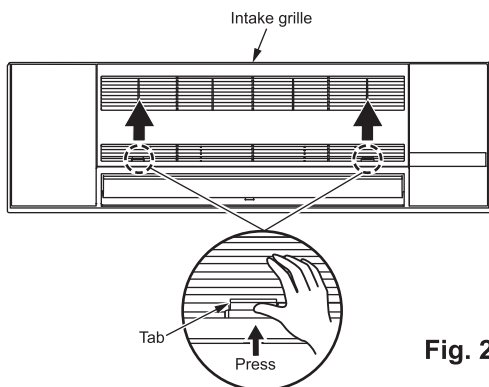

Fig. 2
- Open the intake grille by pressing the 2 tabs on the intake grille to the direction indicated by arrows. (Fig. 2)